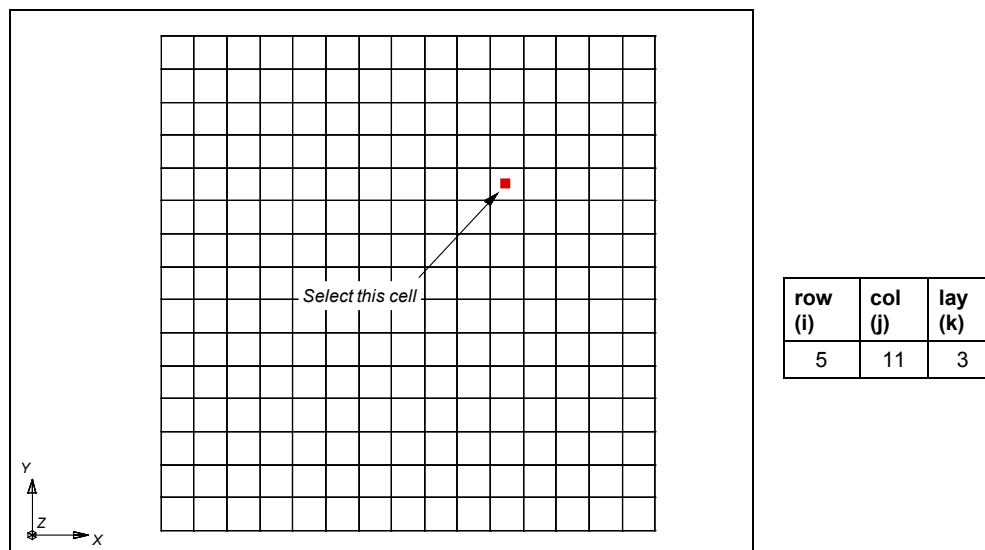

Figure 7. Cell to be selected on bottom layer.
2. Select the cell as shown in **Figure 7**.